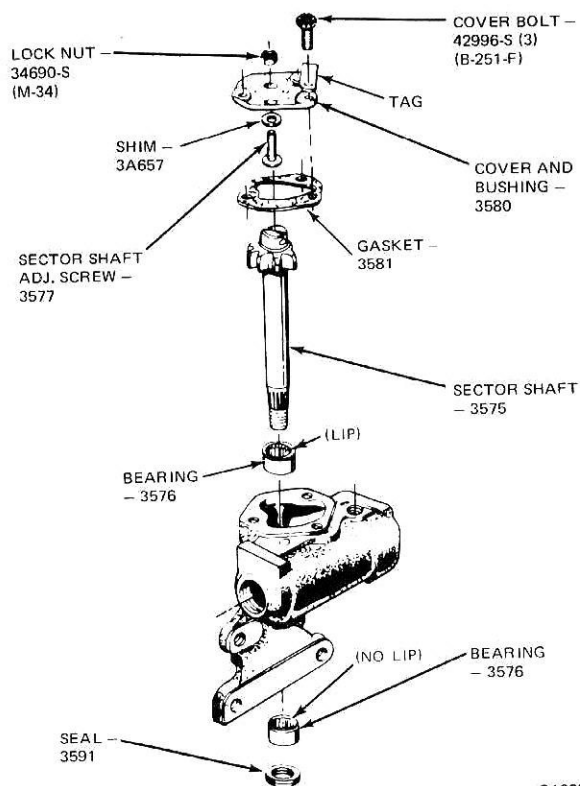

FIG. 5 Sector Shaft and Housing Disassembled
2. Remove the sector adjusting screw locknut and housing cover bolts (Fig. 5). Remove the sector shaft with the cover. Remove the cover from the shaft by turning the screw clockwise. **Keep the shim with the screw.**